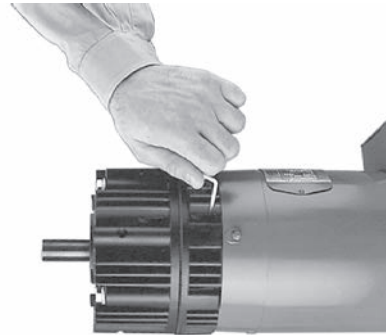

Figure 3
3. The access hole for the Allen wrench to tighten the rotor setscrews is shown in Figure 3. Rotate the clutch rotor as necessary to insert the wrench into the setscrews. Tighten both screws alternately and securely. (40 to 45 in. lbs. for 180 size, 80 to 85 in. lbs. for 50 and 210 sizes.)